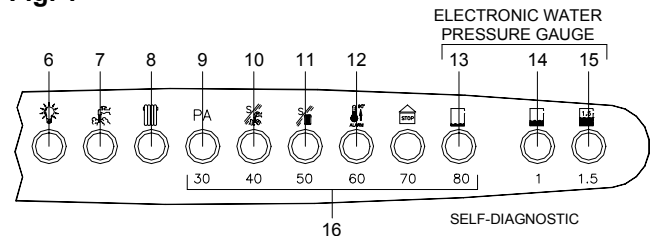

Fig. 2
- C. Insert the thermostat wires (fig.2) one in terminal TA and the other in the one next to it occupied by bridge PT which you have just moved.
SELF- DIAGNOSTIC LEGEND (see fig. 2)
- fill the system until a pressure of 1.5 bar has been reached (light no. 16 ON; see fig. 2) and then close the tap on the filling loop;
- before starting up the boiler the water pressure must be checked again; if this is seen to be below 0.5 bar (light no. 13; see fig. 2), bring it back up to 1.5 bar (light no. 15 ON; see fig. 2) **and close the tap on the filling loop;**
- check the pressure in the system: if this has gone down and LED 13 (see fig. 2 pag. 9) comes restore pressure;
- set selector switch **1** to either the ☼ summer or ❄ winter symbols (see fig.1 pag. 9); make sure that no. **6** light is ON (see fig. 2 pag. 9). The automatic ignition system will turn the burner on. It may be necessary to repeat the procedure a few times to purge air from the pipes. To repeat the ignition procedure press release button **2** (see fig.1 pag. 9) and then try the ignition procedure once again. If the boiler does not start, press the reset button 2 (see fig. 1 pag. 9). **IMPORTANT** should the boiler fail to ignite **wait 3 minutes** before pressing button again.